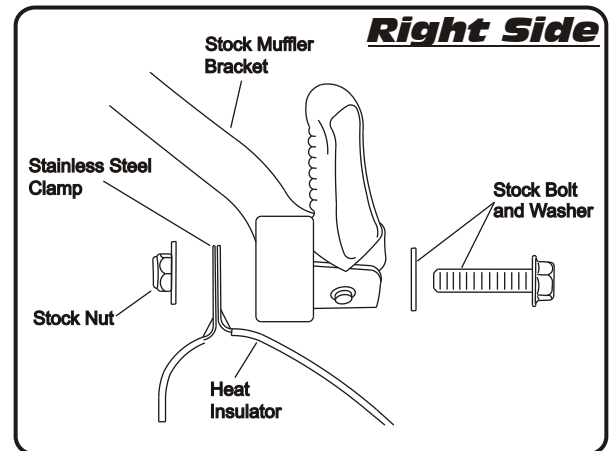

Fig. 4
- 9 Mount Yoshimura muffler clamps to the inside of the stock muffler brackets using stock bolts, washers, and nuts (see Fig. 4 and 5).